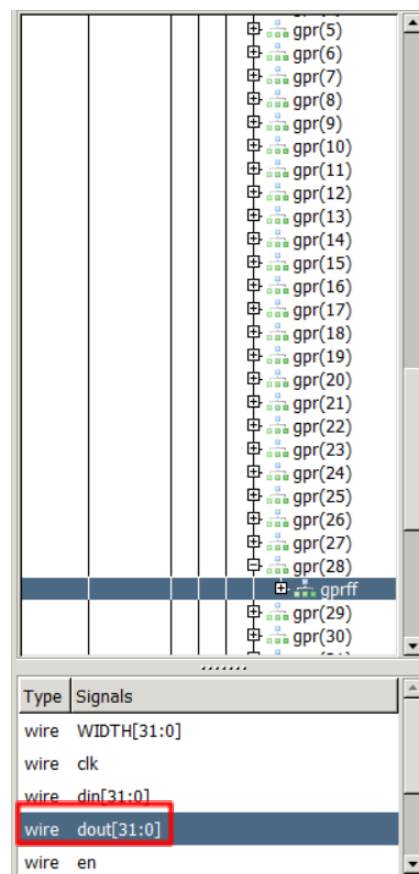

Figure 13. Add signal *dout[31:0]* to the graph
5. Now add the signal that holds the value of register t3 (i.e., register number 28, $\times 28$). Expand the hierarchy under **swerv** into **dec** → **arf** → **gpr_banks(0)** → **gpr(28)** and click on module **gprff** (it will highlight as shown in the following figure), select signal **dout[31:0]** (which shows the contents of register $\times 28$, used in the *AL_Operations.S* example) and drag it into the black Waves pane (Figure 13).